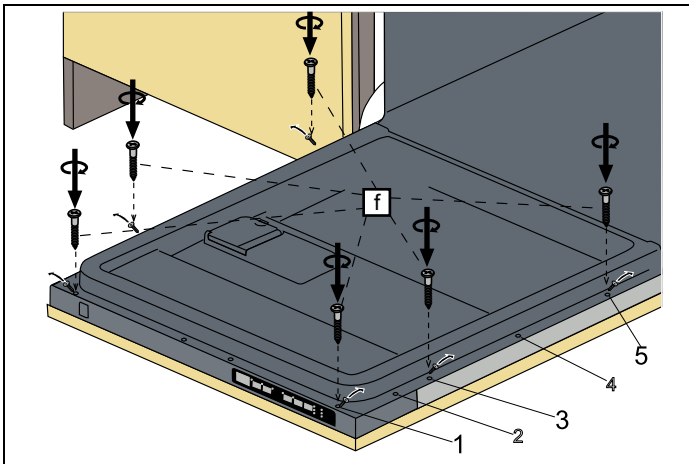

Fig. 27
6) The screws located on the wooden door are fitted to the dishwasher at the discharges located on the door outer sheet and are assembled as shown in Fig. 27.
7) As shown in Fig. 27, Screws  $\text{Ø}5/32'' \times 53/32''$  ( $\text{Ø}4\text{mm} \times 42.5\text{mm}$ ) are installed in positions I, III and V.